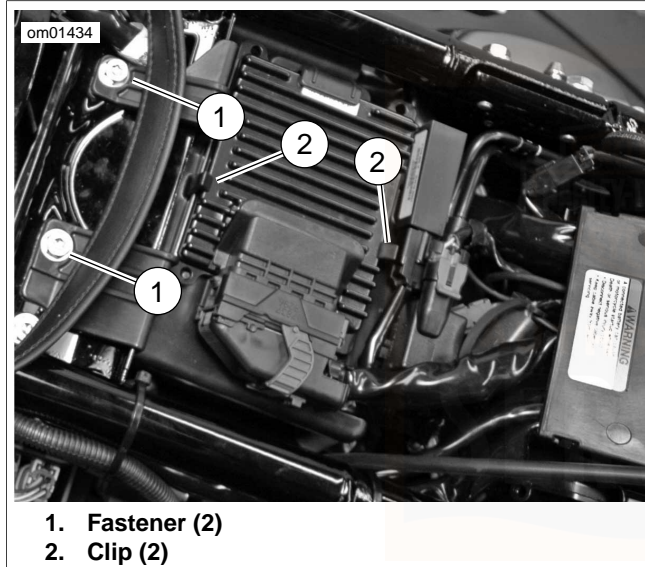

Figure 67. Top Caddy (FLHXXX shown)
3. See Figure 67. Remove two screws from rear of top caddy.
5. See Figure 67. Rotate top caddy into position above battery and engage front of caddy to the front clip.